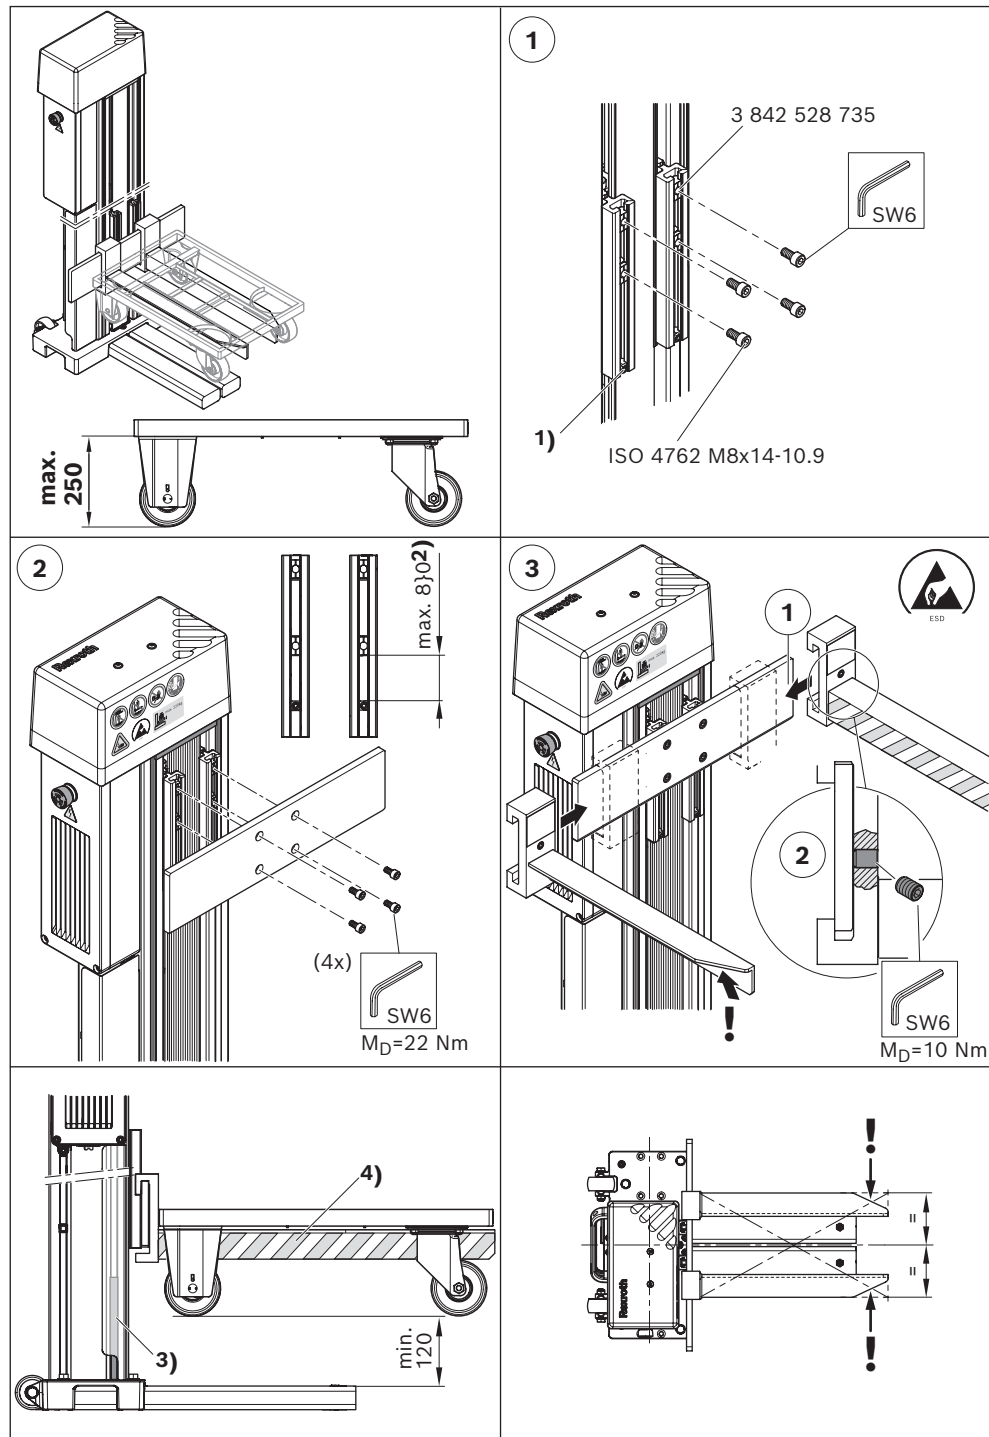

Fig. 19: Installation of attachment plate, forks for dollies with max. 250 mm ground clearance
- Dolly with max. 250 mm ground clearance (see Fig. 19)